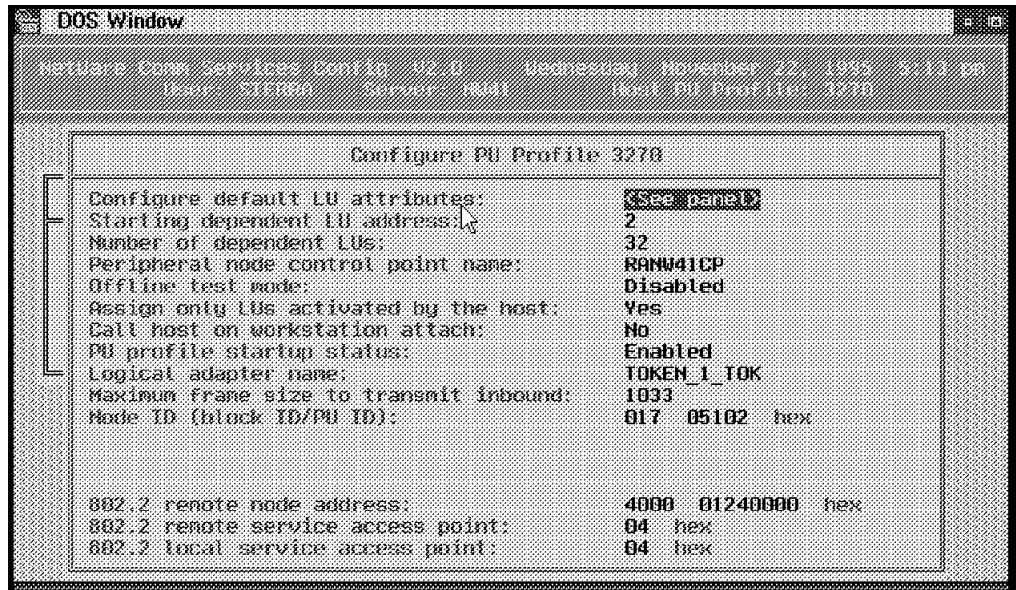

Figure 212. Configuring Host Connections - PU Profile
10. Click on **Configure PU Profile**, and a panel appears as shown in Figure 212.
Select the one you have created before (see Figure 212 on page 209).